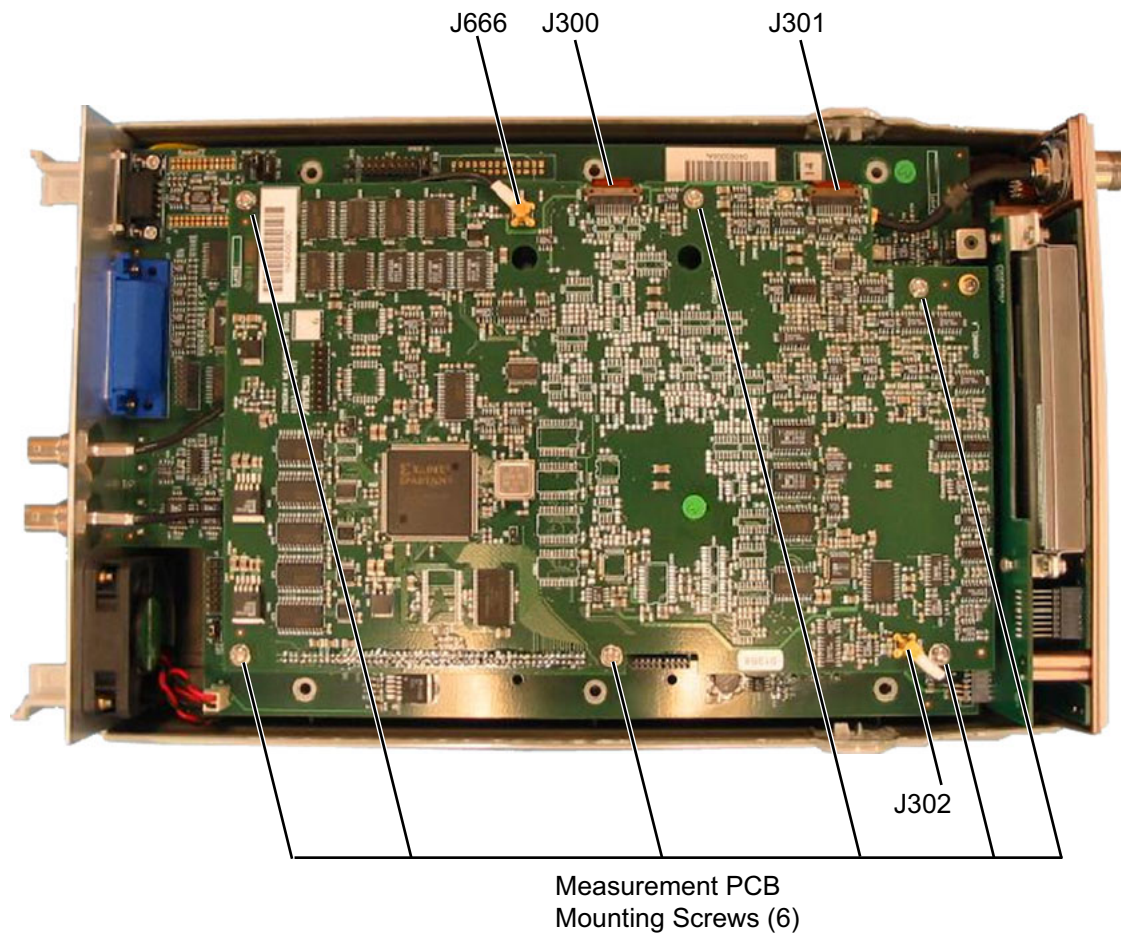

Figure 6-1. Measurement PCB Removal - ML2487/8A
3. Remove the six screws and washers that mount the measurement PCB to its support standoffs. See Figure 6-1.
4. Disconnect the MCX connectors from J302 and J666 on the measurement PCB. See Figure 6-1.
Pull back the locking tabs first to release the cable. See Figure 6-1.